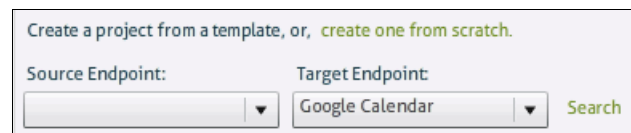

Figure 11-5 Create project selections in Cast Iron Live
- From the Target Endpoint drop-down menu, select **Google Calendar**, as shown in Figure 11-5.